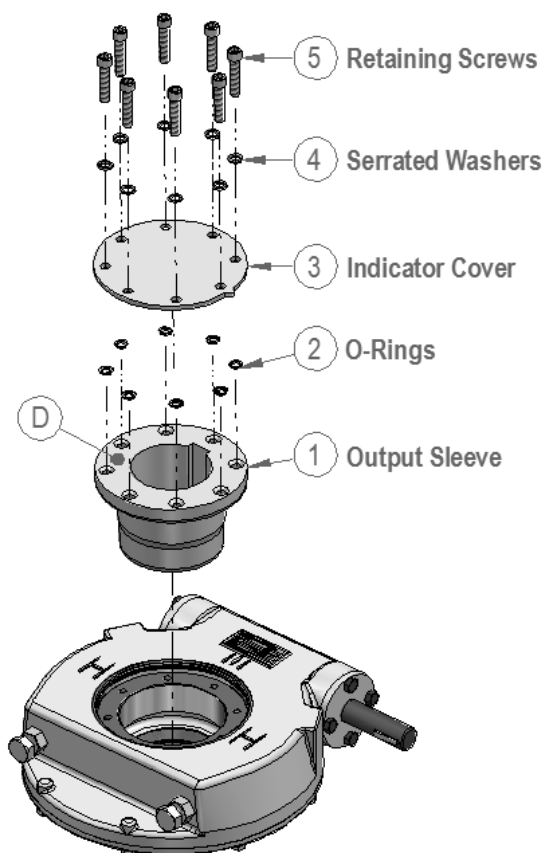
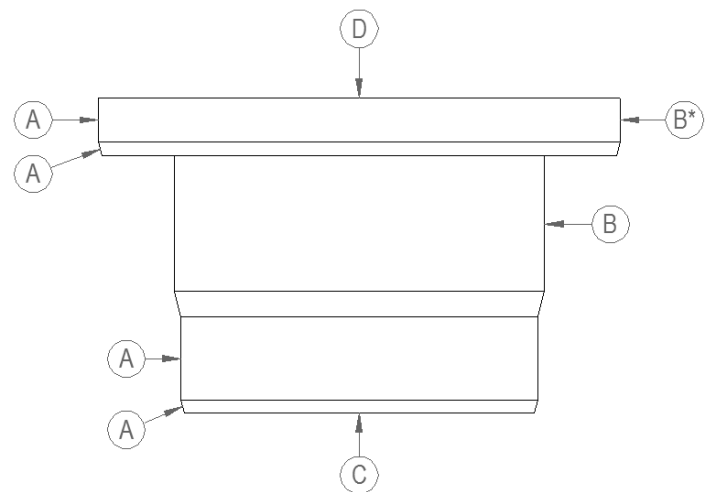

Figure 1 - Output Sleeve Arrangement
Figure 2 - Output Sleeve, Important Surfaces
All gearboxes except for IW12 to IW16 and HOW13 have a removable output sleeve (item 1, Figure 1). Unless specifically requested at the ordering stage, the output sleeve will be supplied blank and must be machined to suit the valve shaft.
Figure 1 shows the arrangement of the output sleeve in the gearbox. See Figure 2 for removing the output sleeve without damaging the sealing faces.
Important Notes in Figure 2:
Referring to the item numbers in Figure 1, the output sleeve can be easily removed from the top of the gearbox by first removing the retaining screws (5). The screws are either serrated under their heads or are fitted with serrated washers (4). Then remove the indicator/cover plate (3).
Referring to Figure 1, O-rings (2) are used to seal the indicator plate, output sleeve and retaining screws. Upon final installation on the valve, screws (5) must be tightened to the correct torque figures as shown on the label on the underside of the indicator/cover plate.
Before re-fitting the output sleeve after machining, check that the surfaces marked 'A' in Figure 2 are not damaged. Damaged surfaces can break the gearbox seals and cause water ingress or grease leakage. Applying a thin layer of grease to the faces marked 'A' will make refitting of the sleeve easier.
Before re-assembly, clean and de-grease the top face of the output sleeve, underside of the indicator/cover plate, and the socket head cap screws. Make a note of the tightening torque required for the output sleeve screws on the label on the underside of the indicator plate. Insert the screws and washers into the holes in the indicator/cover plate, as per Figure 1.
As detailed in Figure 1 and Figure 2, it is recommended that silicon sealant is applied to face 'D' to seal the indicator/cover plate to the output sleeve, taking care not to apply sealant to the O-rings (2) or the sealing faces with the O-rings. For acceptable sealants, see Table 4 on page 14.